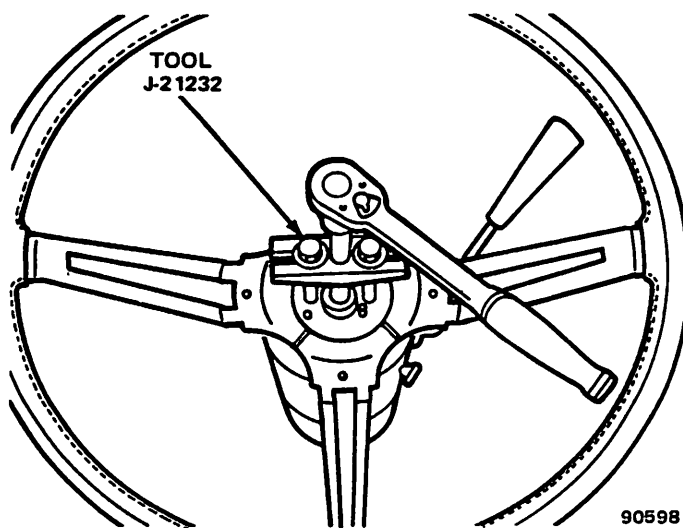

Fig. 2J-1 Steering Wheel Removal
- (1) Disconnect battery negative cable.
- (2) Place front wheels in straight-ahead position.
- (3) Remove horn button. Pull button straight up to remove.
- (4) Remove steering wheel nut and washer.
- (5) Remove receiver bushing attaching screws and remove bushing.
- (6) Remove horn button receiver and contact plate.
- (7) Paint or scribe alignment marks on steering wheel and steering shaft for assembly reference.
- (8) Remove steering wheel using Puller J-21232 (fig. 2J-1).